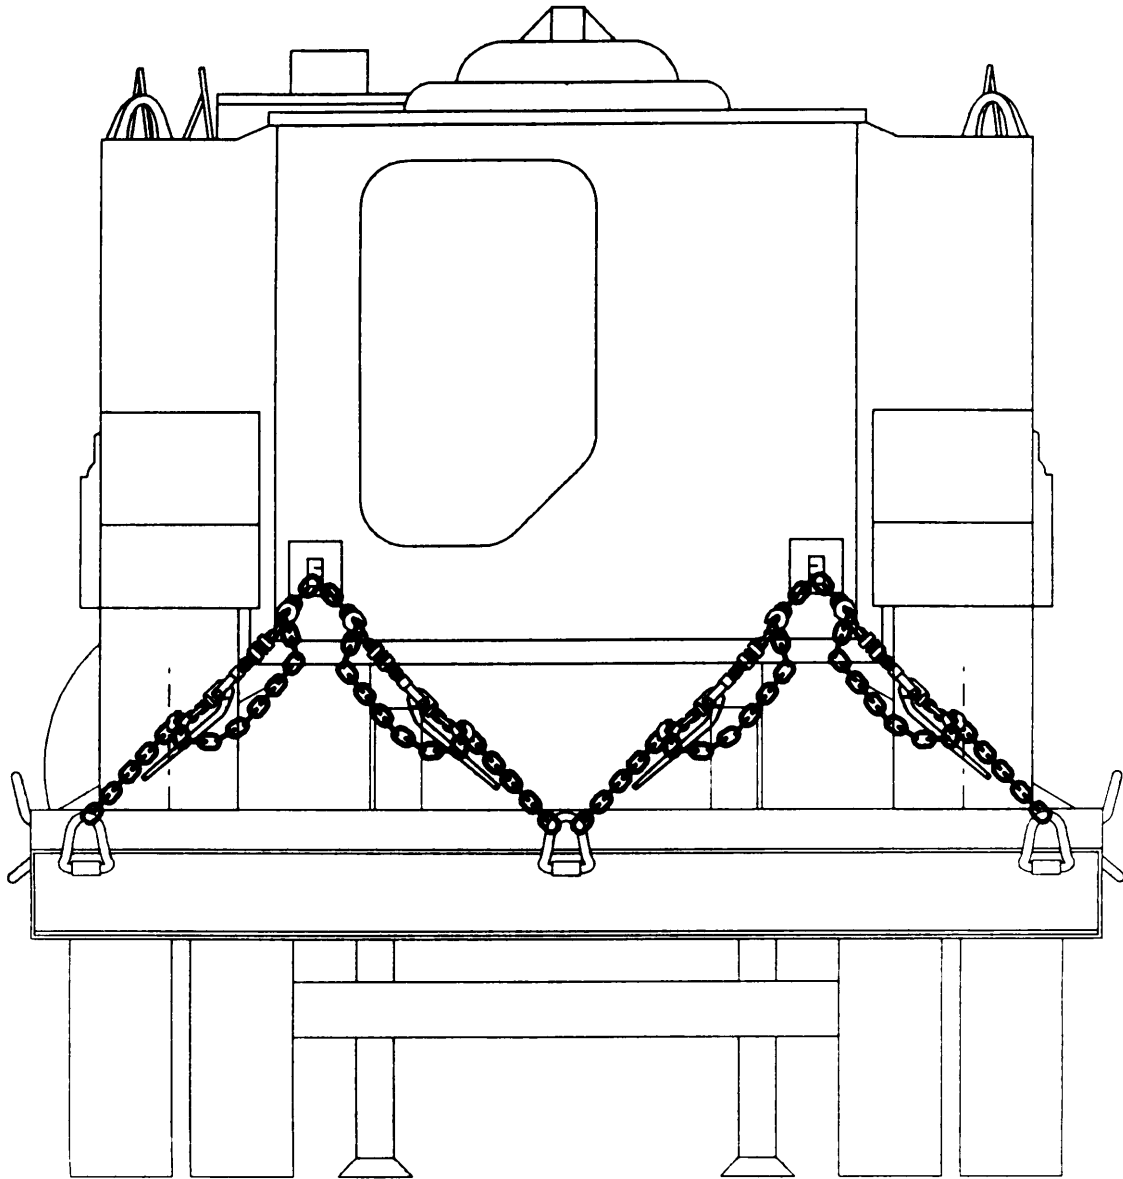

Figure 2-1. Detail of a chain tiedown pattern. (Table 2-3, chain assembly, option 1b)
d. Put the transmission in neutral. For the M113A3 and M730A2, put the transmission in the steer lock (SL) position.
f. Install chain and load binders. Specific sizes and types of chain and cable assemblies are specified in table 2-3 and figures 2-1 and 2-2. Figures
Chains/Load Binders (4 to 8 required)	Properly rated chains and load binders are preferred for tiedown. Install at indicated locations, as shown in figures 2-1, 2-3, 2-4, and 2-5.